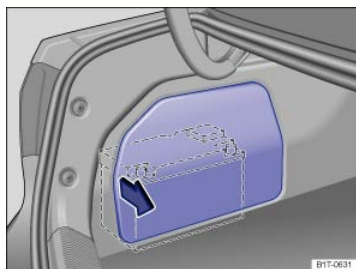

Fig. 177 In the side of the luggage compartment: On vehicles with 3.6 liter engines, the vehicle battery is on the left side of the luggage compartment.
- On vehicles with 3.6 liter engines: Remove the trim panel to access the vehicle battery ⇒ Fig. 177